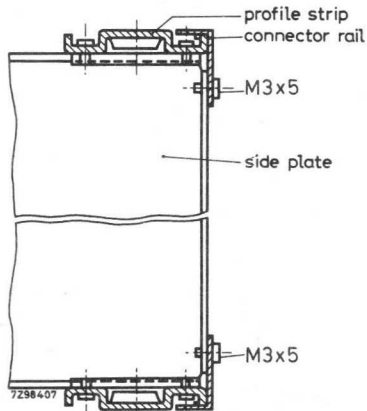

Fig.10
3. Attach the two connector rails \*) to the side plates with 4 screws M3x5; do not tighten the screws (Fig.10).